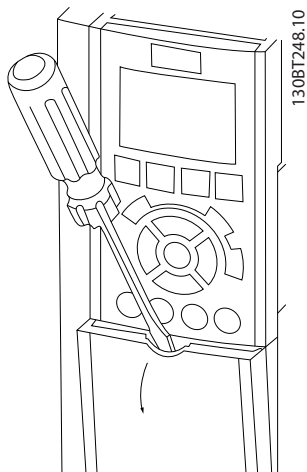
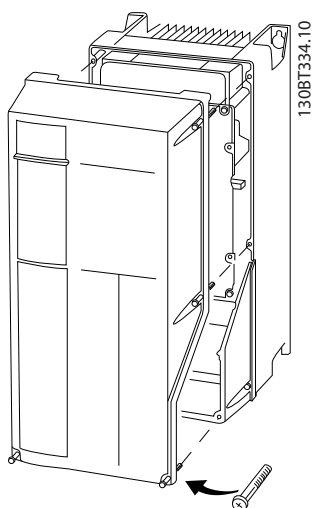

Figure 4.3 Access to Wiring for IP20 and IP21 Enclosures
Figure 4.4 Access to Wiring for IP55 and IP66 Enclosures
- Remove the cover with a screw driver (See Figure 4.3) or by loosening the attaching screws (See Figure 4.4).